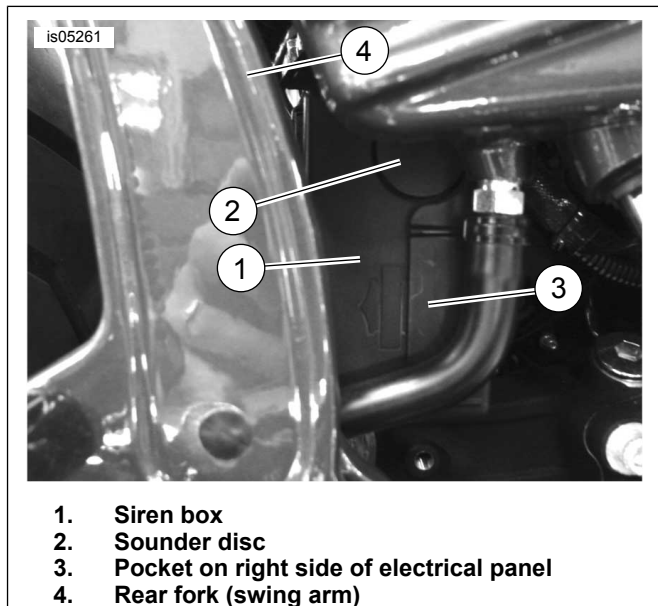

Figure 19. Siren Mounting (FXCW/C Models)
3. Remove the siren connector [142B] from the receptacle (3) near the top of the electrical panel (2).
5. See Figure 19. Position the siren box (1) with the harness connector toward the rear and the sounder disc (2) facing out. Carefully snap the siren box into the pocket (3) on the right side of the electrical panel.